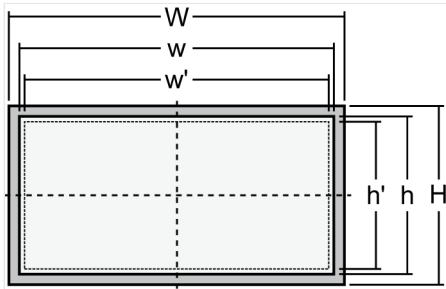

Fig. 11: Cutout schematic
1. ▷ Cut out the panel according to the dimensions in  Fig. 11.